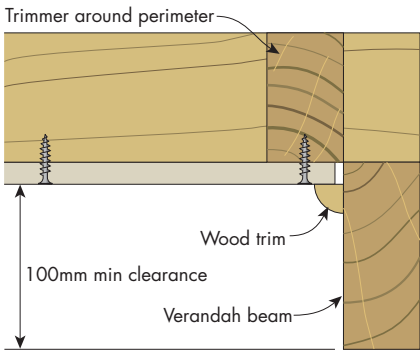

FIGURE 5 External Ceilings
- › Minimum 100mm clearance from external ceiling lining to lower edge of verandah beam or masonry lintel, otherwise provide protection against wind blown rain. *[Refer to Figures 5, 6, 7, 8 and 9]*